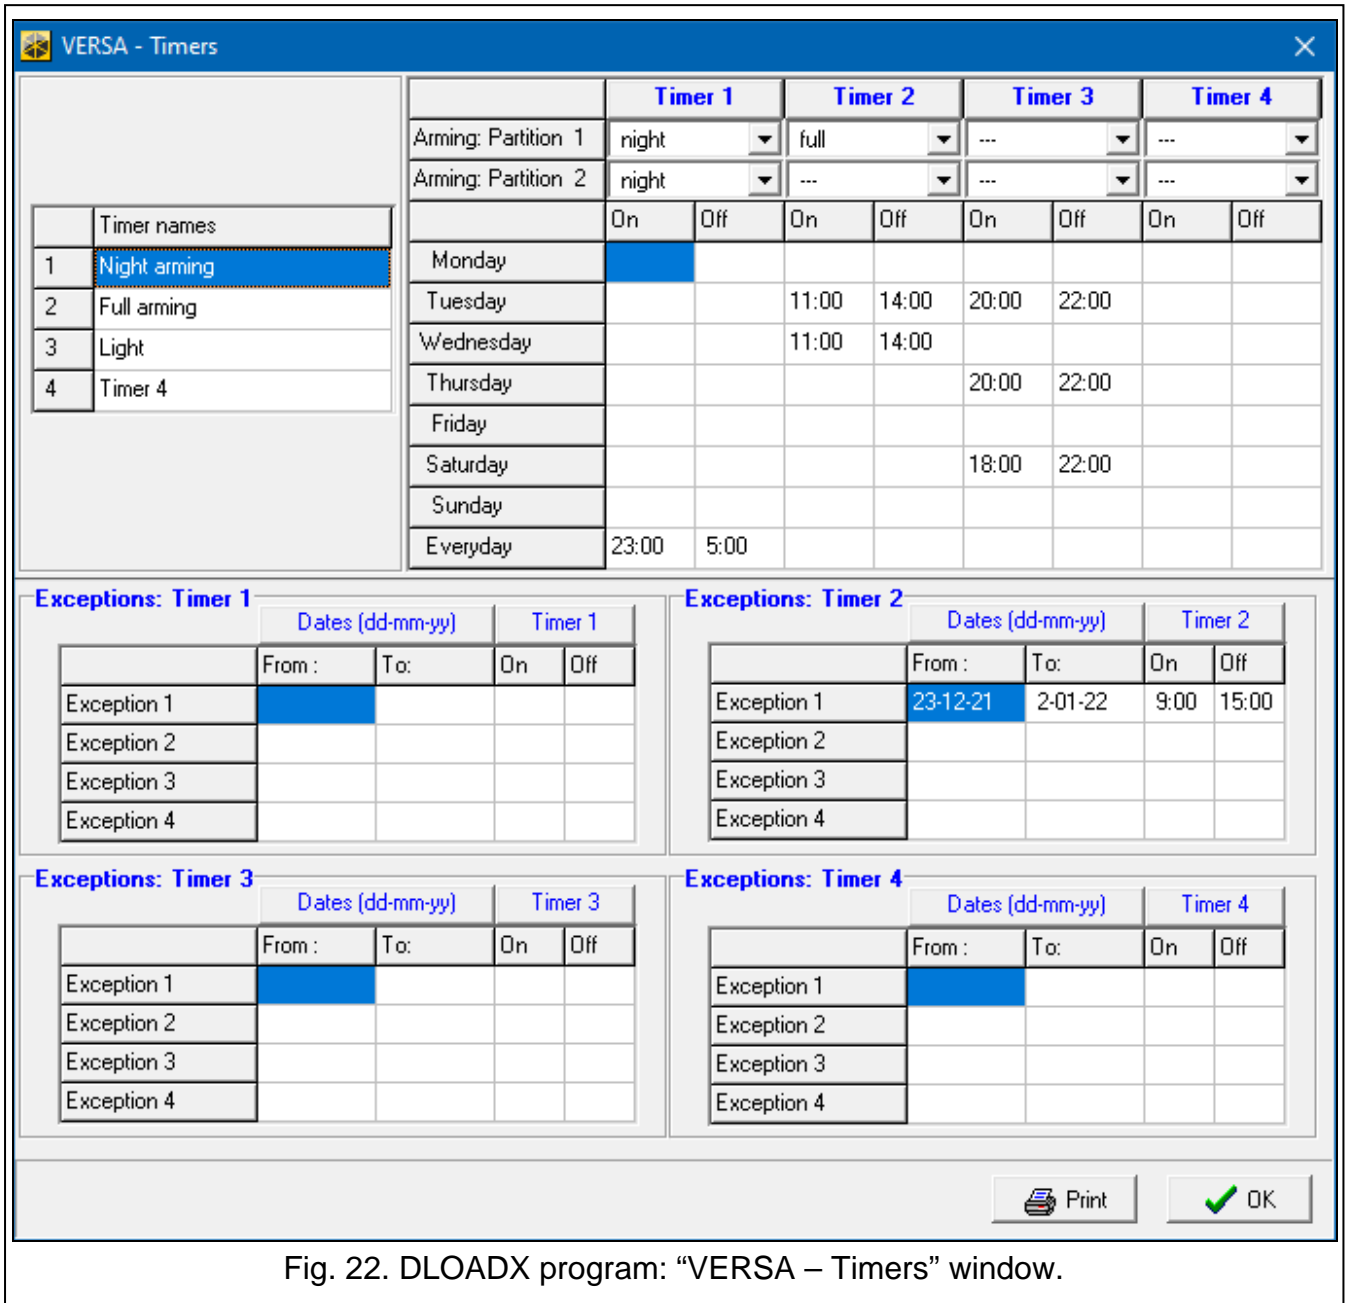

Fig. 22. DLOADX program: “VERSA – Timers” window.
- DLOADX program: “VERSA – Timers” window (Fig. 22).